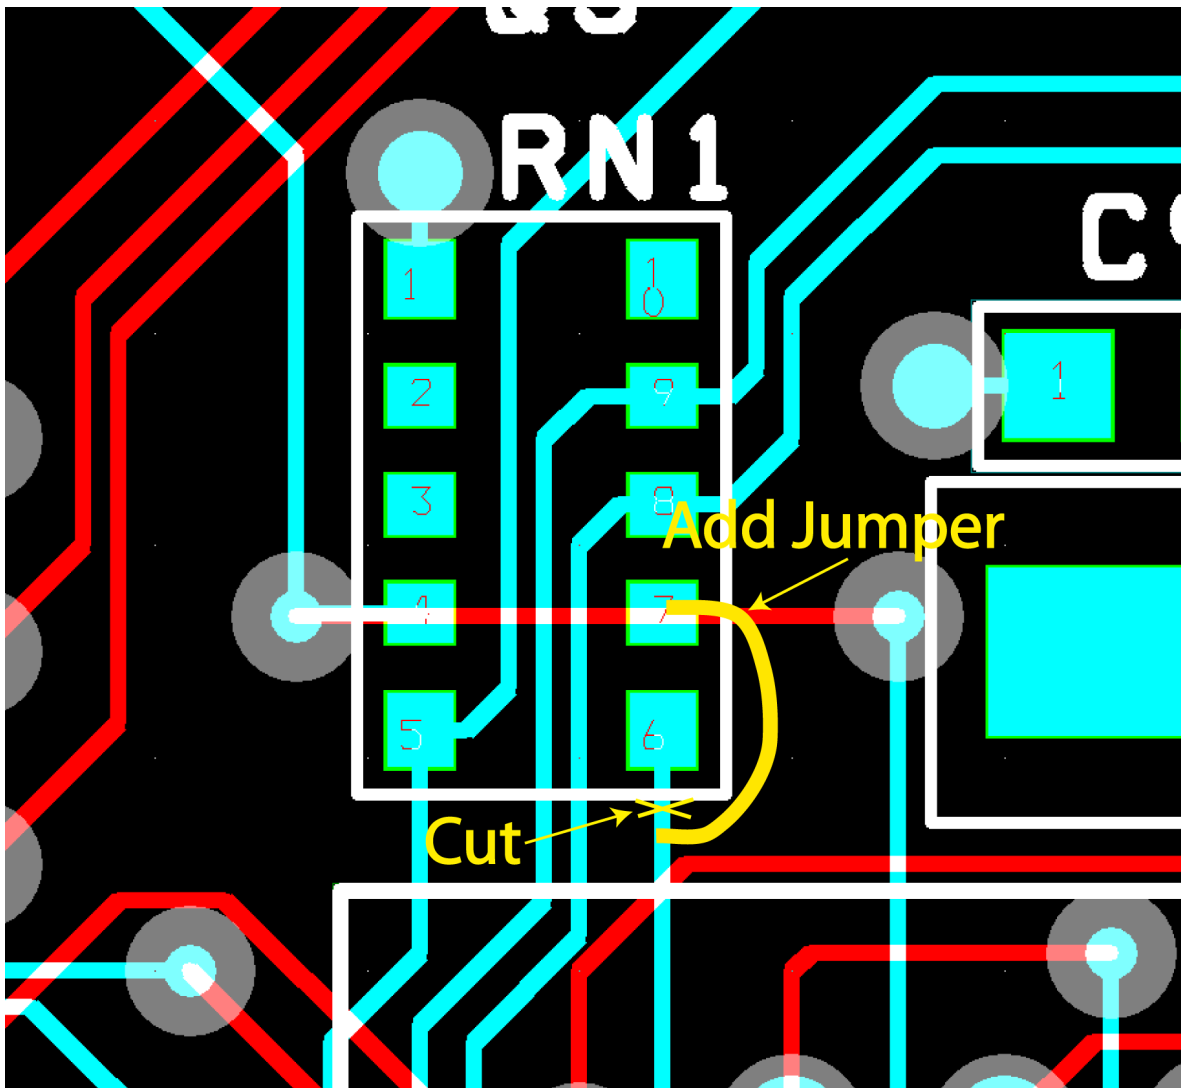

Figure 1. RN1 PCB Detail - Electric Drive Controller Rev.A
**CORRECTION 1 of 2:** Cut the trace that runs from pin U1.37 to pin RN1.6 near the pad of pin RN1.6 (approximately 0.020" from the pad). Add a jumper to electrically connect pin U1.37 to pin RN1.7 by attaching one side of the jumper to the cut-end of the previously cut trace, and the other side to pin RN1.7 (See: Figure 1 for a close up detail of RN1). The jumper should not be covered by any components.